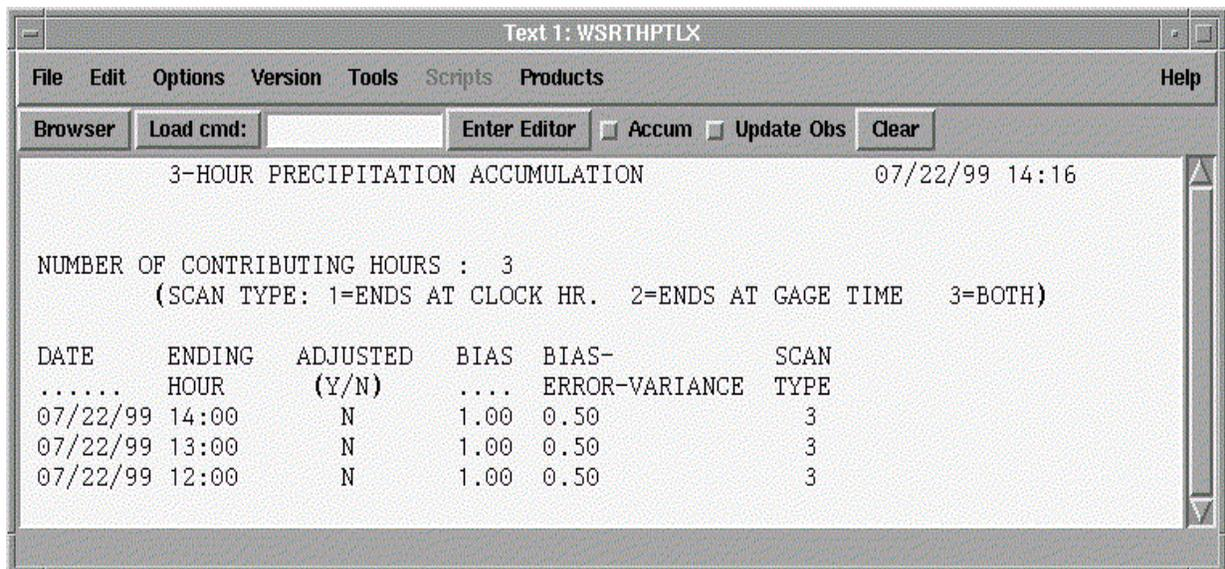

Figure 5-109. THP Alphanumeric Product
- Paired Alphanumeric Product (see Fig. 5-109)